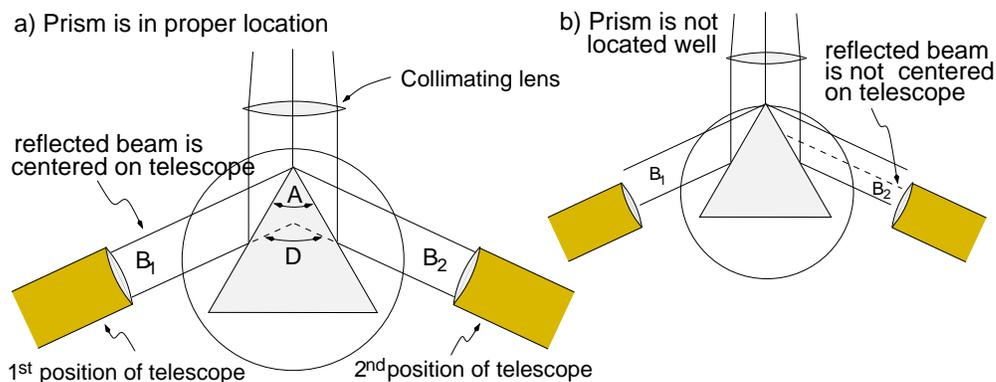

Figure 3: Proper, a), and improper, b) prism locations.
1. Mount the prism (in holder) on the dowel pins (in the prism table) so that the prism is far enough from the collimator that beams B_1 and B_2 are centered with respect to the spectrometer axis; otherwise much of the reflected light may miss the telescope. Turn the table so that the apex angle A (Fig. 3) splits the beam into nearly equal parts.
4. Then with telescope in the 2nd position, set on the slit image. The change in reading of the *same* angle scale should be the angle D . (See Fig. 3.) *Be sure you don't get the angle scales mixed up and subtract the first reading of angle scale 1 from a reading of angle scale 2*. Also some students incorrectly handle the subtraction when the scale passes through 360° or 0° .